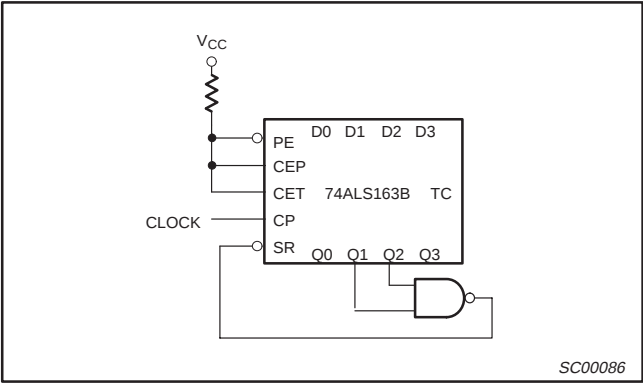

Figure 1. Maximum Count Modifying Scheme
For the 74ALS163B the clear function is synchronous. A Low level at the synchronous reset ($\overline{SR}$) input sets all four outputs of the flip-flops (Q0 – Q3) to Low levels after the next positive-going transition on the clock (CP) input (provided that the setup and hold time requirements for $\overline{SR}$ are met). This action occurs regardless of the levels at CP, $\overline{PE}$, CET and CEP inputs. The synchronous reset feature enables the designer to modify the maximum count with only one external NAND gate (see Figure 1).